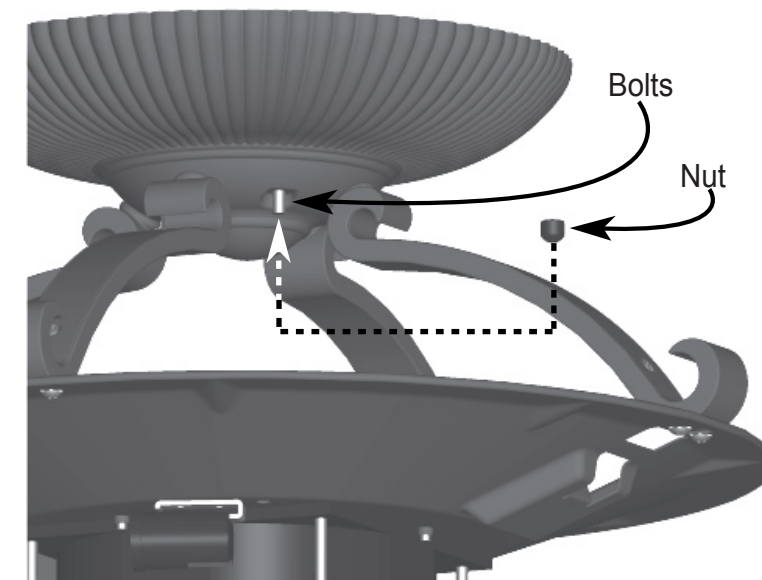

Figure 9 - Acorn Nut Installation
6) Position the Acorn Nuts over the Hanger Bolts, and tighten the Acorn Nuts until tight. See Figure 9.